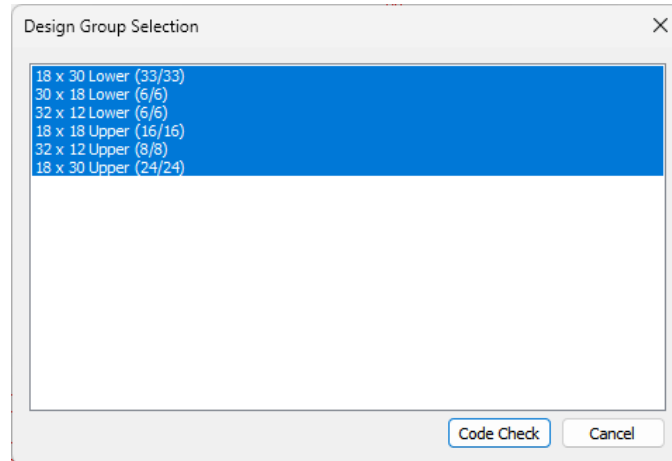

FIGURE 15-13
- Select the **18 x 30 Lower** Design Group as shown in **FIGURE 15-13**.